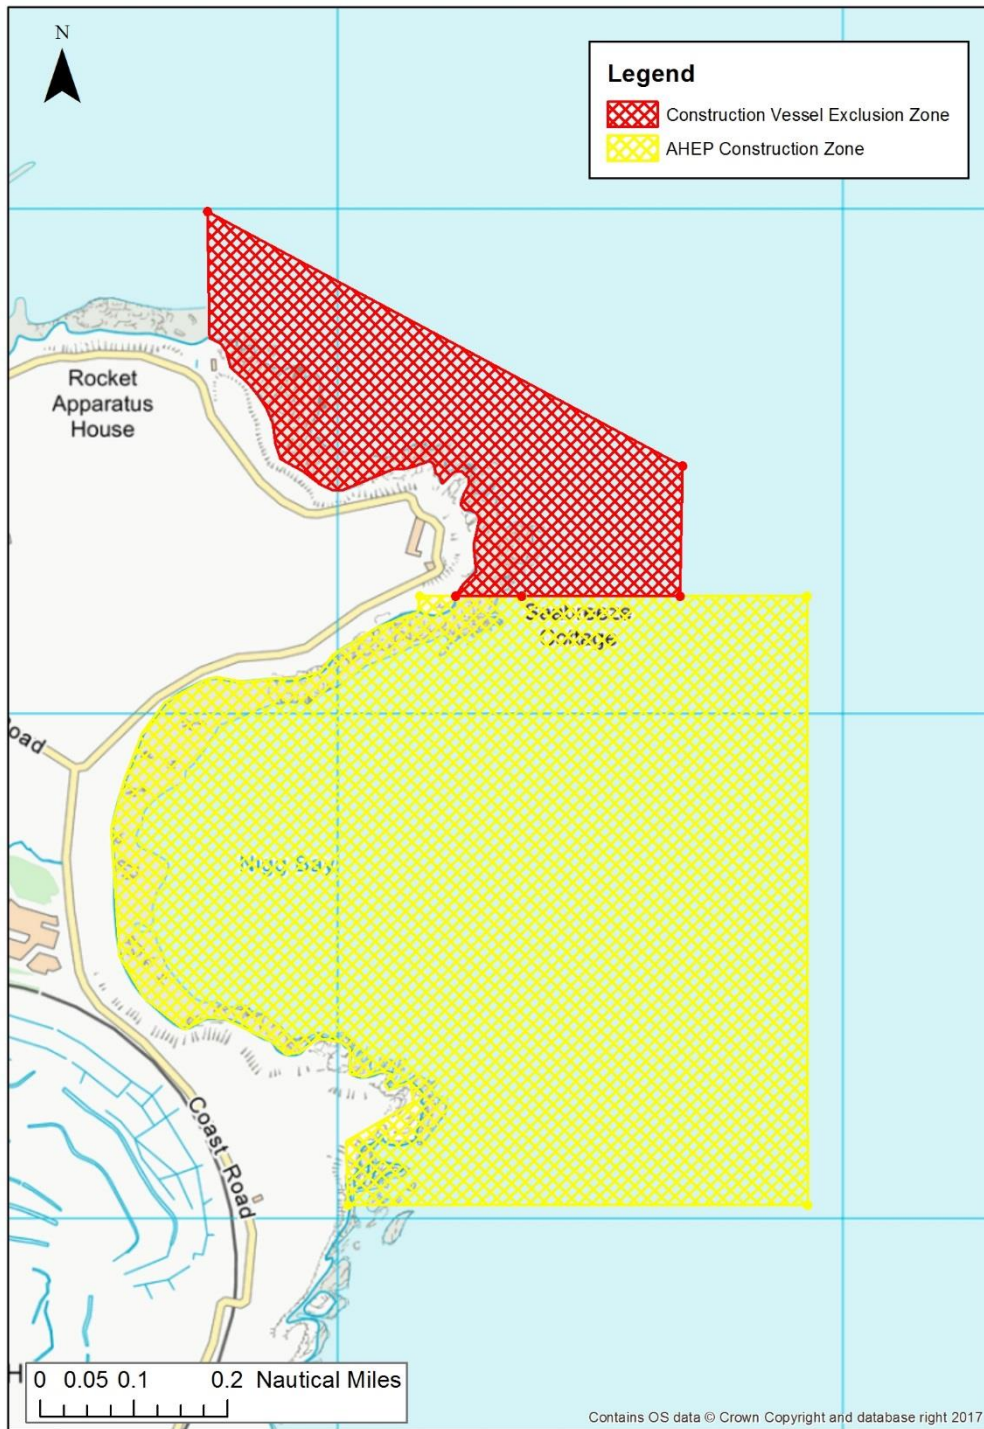

Figure 17.2: Project Site Boundary and Construction Vessel Exclusion Zone
**This vessel free buffer zone of around Girdle Ness and Greyhove Bay applies to all vessels.** All marine contractors must adhere to the exclusion zones established throughout the duration of works and shown in Figure 17.2. No vessels are to be west of the coordinates listed above.
Figure 17.2 shows the limits of the project site relating to marine activity. These limits will be communicated to vessels by Aberdeen VTS as agreed with Aberdeen Harbour.